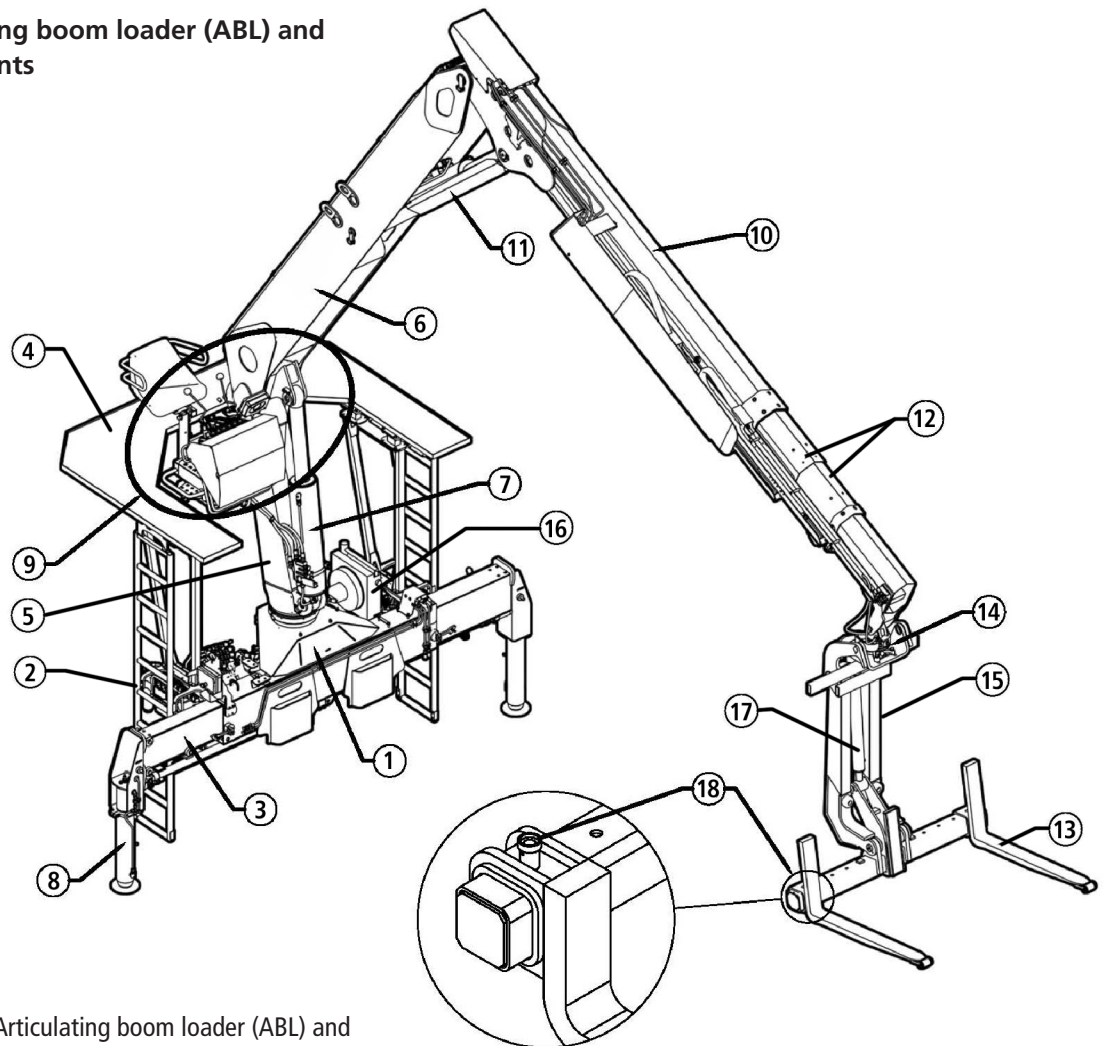

Figure 1.2: Articulating boom loader (ABL) and components
**articulating boom loader (ABL):** A non-folding articulating crane with a permanently attached hydraulic fork restricted to loading and unloading materials from a truck; also known as a *drywall* or *material-handling crane*; see Figure 1.2 (page 5)